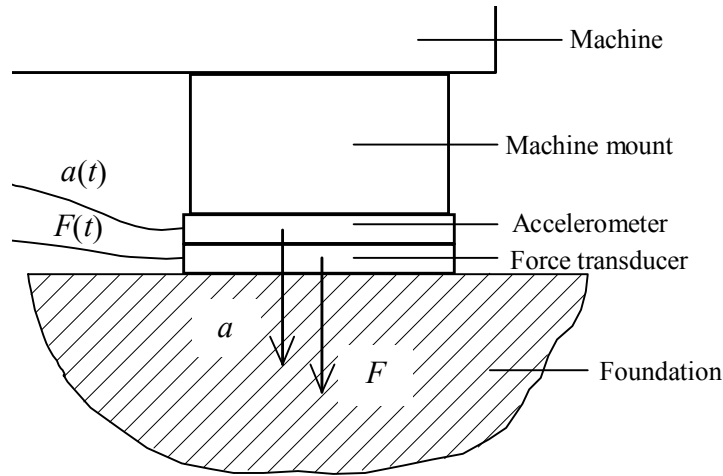

Figure 1 In each of the four mounting points the force and the velocity (acceleration) is measured using force transducers and accelerometers.
- d) Suppose the load is applied to point B at angle γ with respect to the horizontal axis see Figure 1. Modify the m-file so that it calculates the displacement components δ_x and δ_y as functions of the load angle γ in the interval $\gamma \in [0, 2\pi]$. Plot the displacement components as functions of the load angle γ in a lin-lin diagram. For which γ values is the horizontal displacement component zero?
Suppose a machine is vibrating with a dominant frequency at 90 Hz. The vibrations is transmitted to the foundation via four mounts and then finally radiated as sound from the vibrating foundation. The vibration energy transmitted via a mounting can be determined by simultaneously measuring the force, F , and the velocity, v , in the mounting. In practise the velocity is measured indirectly by measuring the acceleration, see Figure 1.